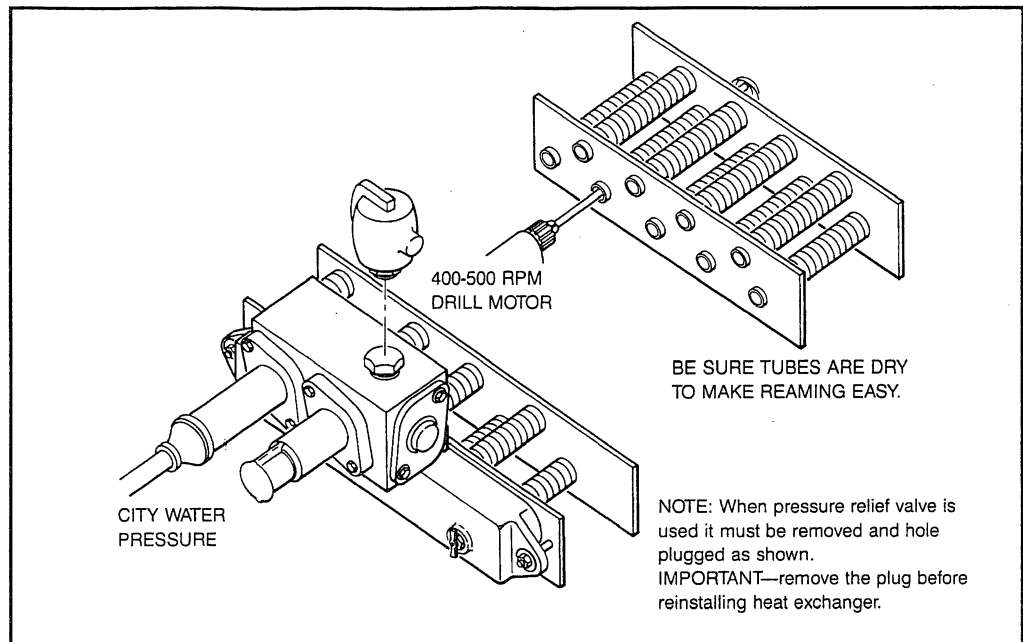

Figure 41. Heat Exchanger Testing & Cleaning
2. The insides of the tubes can be reamed as illustrated in Fig. 41.
6. Pressure test the heat exchanger for leaks with city water supply before re-installing (see Fig. 41).